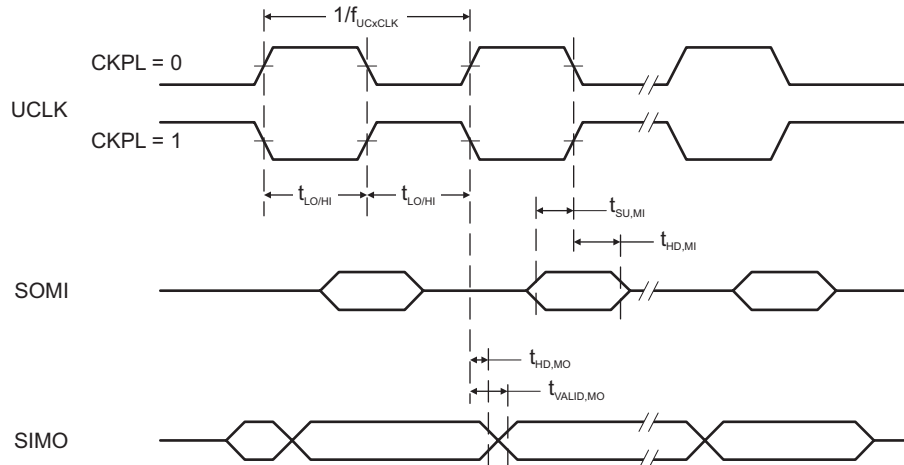
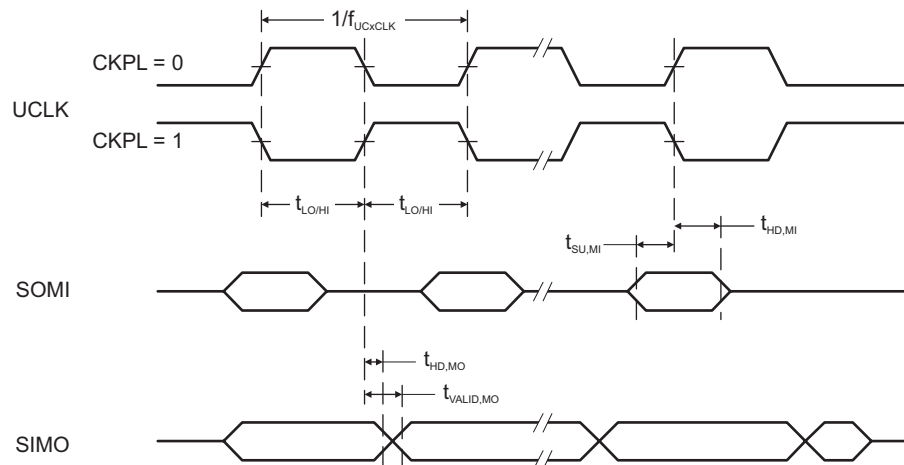

Figure 5-12. SPI Master Mode, CKPH = 0
Figure 5-13. SPI Master Mode, CKPH = 1
(see Figure 5-12 and Figure 5-13)
(2) Specifies the time to drive the next valid data to the SIMO output after the output changing UCLK clock edge. Refer to the timing diagrams in Figure 5-12 and Figure 5-13.
(3) Specifies how long data on the SIMO output is valid after the output changing UCLK clock edge. Negative values indicate that the data on the SIMO output can become invalid before the output changing clock edge observed on UCLK. Refer to the timing diagrams in Figure 5-12 and Figure 5-13.
- Specifies the time to drive the next valid data to the SOMI output after the output changing UCLK clock edge. Refer to the timing diagrams in Figure 5-12 and Figure 5-13.
- Specifies how long data on the SOMI output is valid after the output changing UCLK clock edge. Refer to the timing diagrams in Figure 5-12 and Figure 5-13.